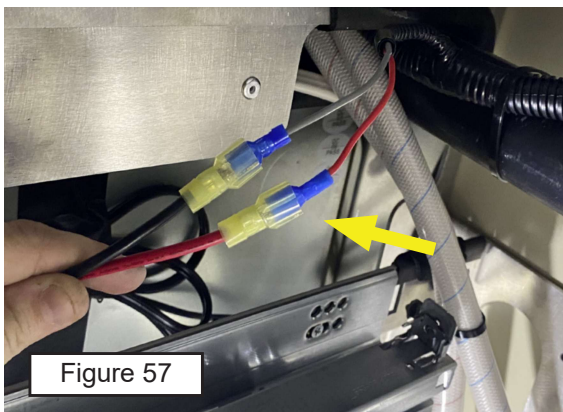

Figure 57
a. Carefully position the fridge inside the van and connect (2) spade connections on the backside of the fridge. **Note: some models will also have 110 power cable that is taped to the backside of fridge this will need to be connected to an Internal 110 receptacle prior to installing the fridge.** (See Figure 57)